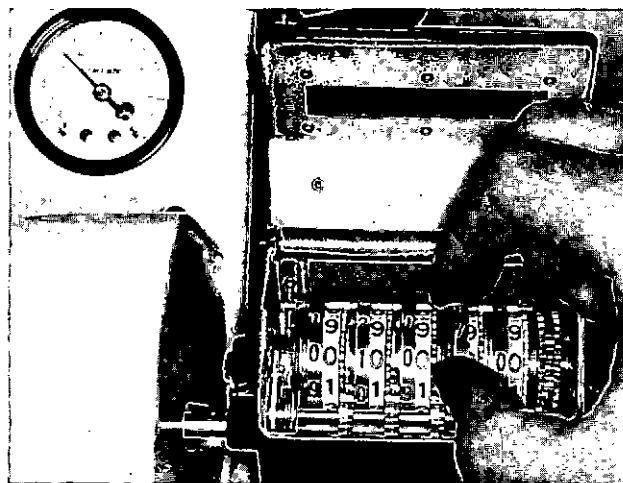

Fig. 4-52, (F60138). Start the counter at zero
15. All of the counter wheels must be set at zero as a starting point, Fig. 4-52.